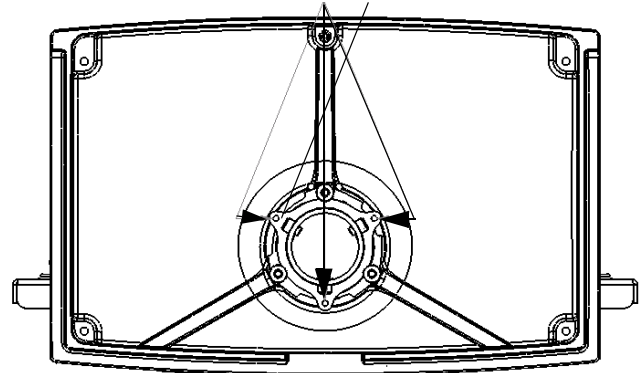

Figure 11. Swivel Stops (15, 25 or 35 Degrees)
1. If desired, insert the 10-24 X 1/2" Phillips head cap screw in one of the three swivel stop holes (15, 25 or 35 degrees) in the base of the stand (see Figure 11).